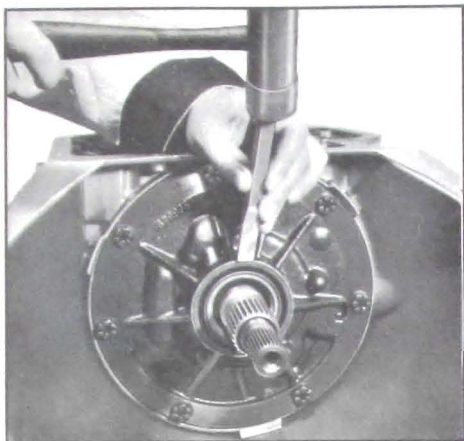

Figure 5-537
1. If necessary to replace, pry front seal from pump. See Figure 5-537.